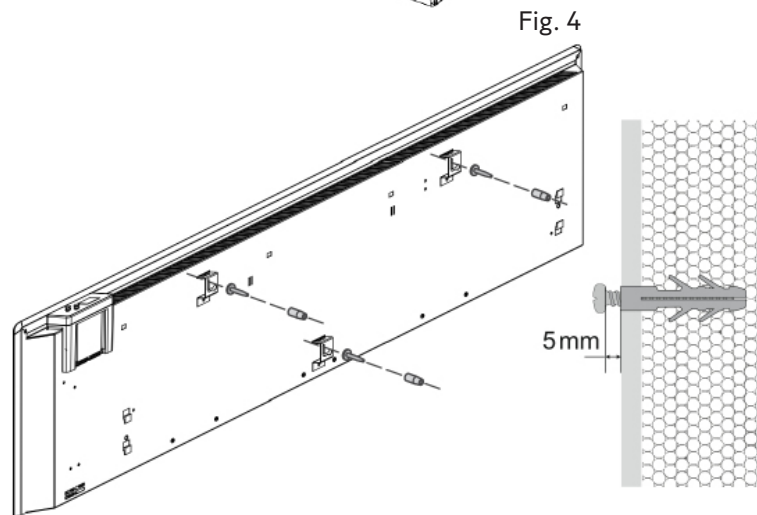

Fig. 4
- Insert plastic plugs into the holes or other applicable fastening devices. (Fig. 4)
- Screw in the screws and let them protrude about 5 mm. (Fig. 4)